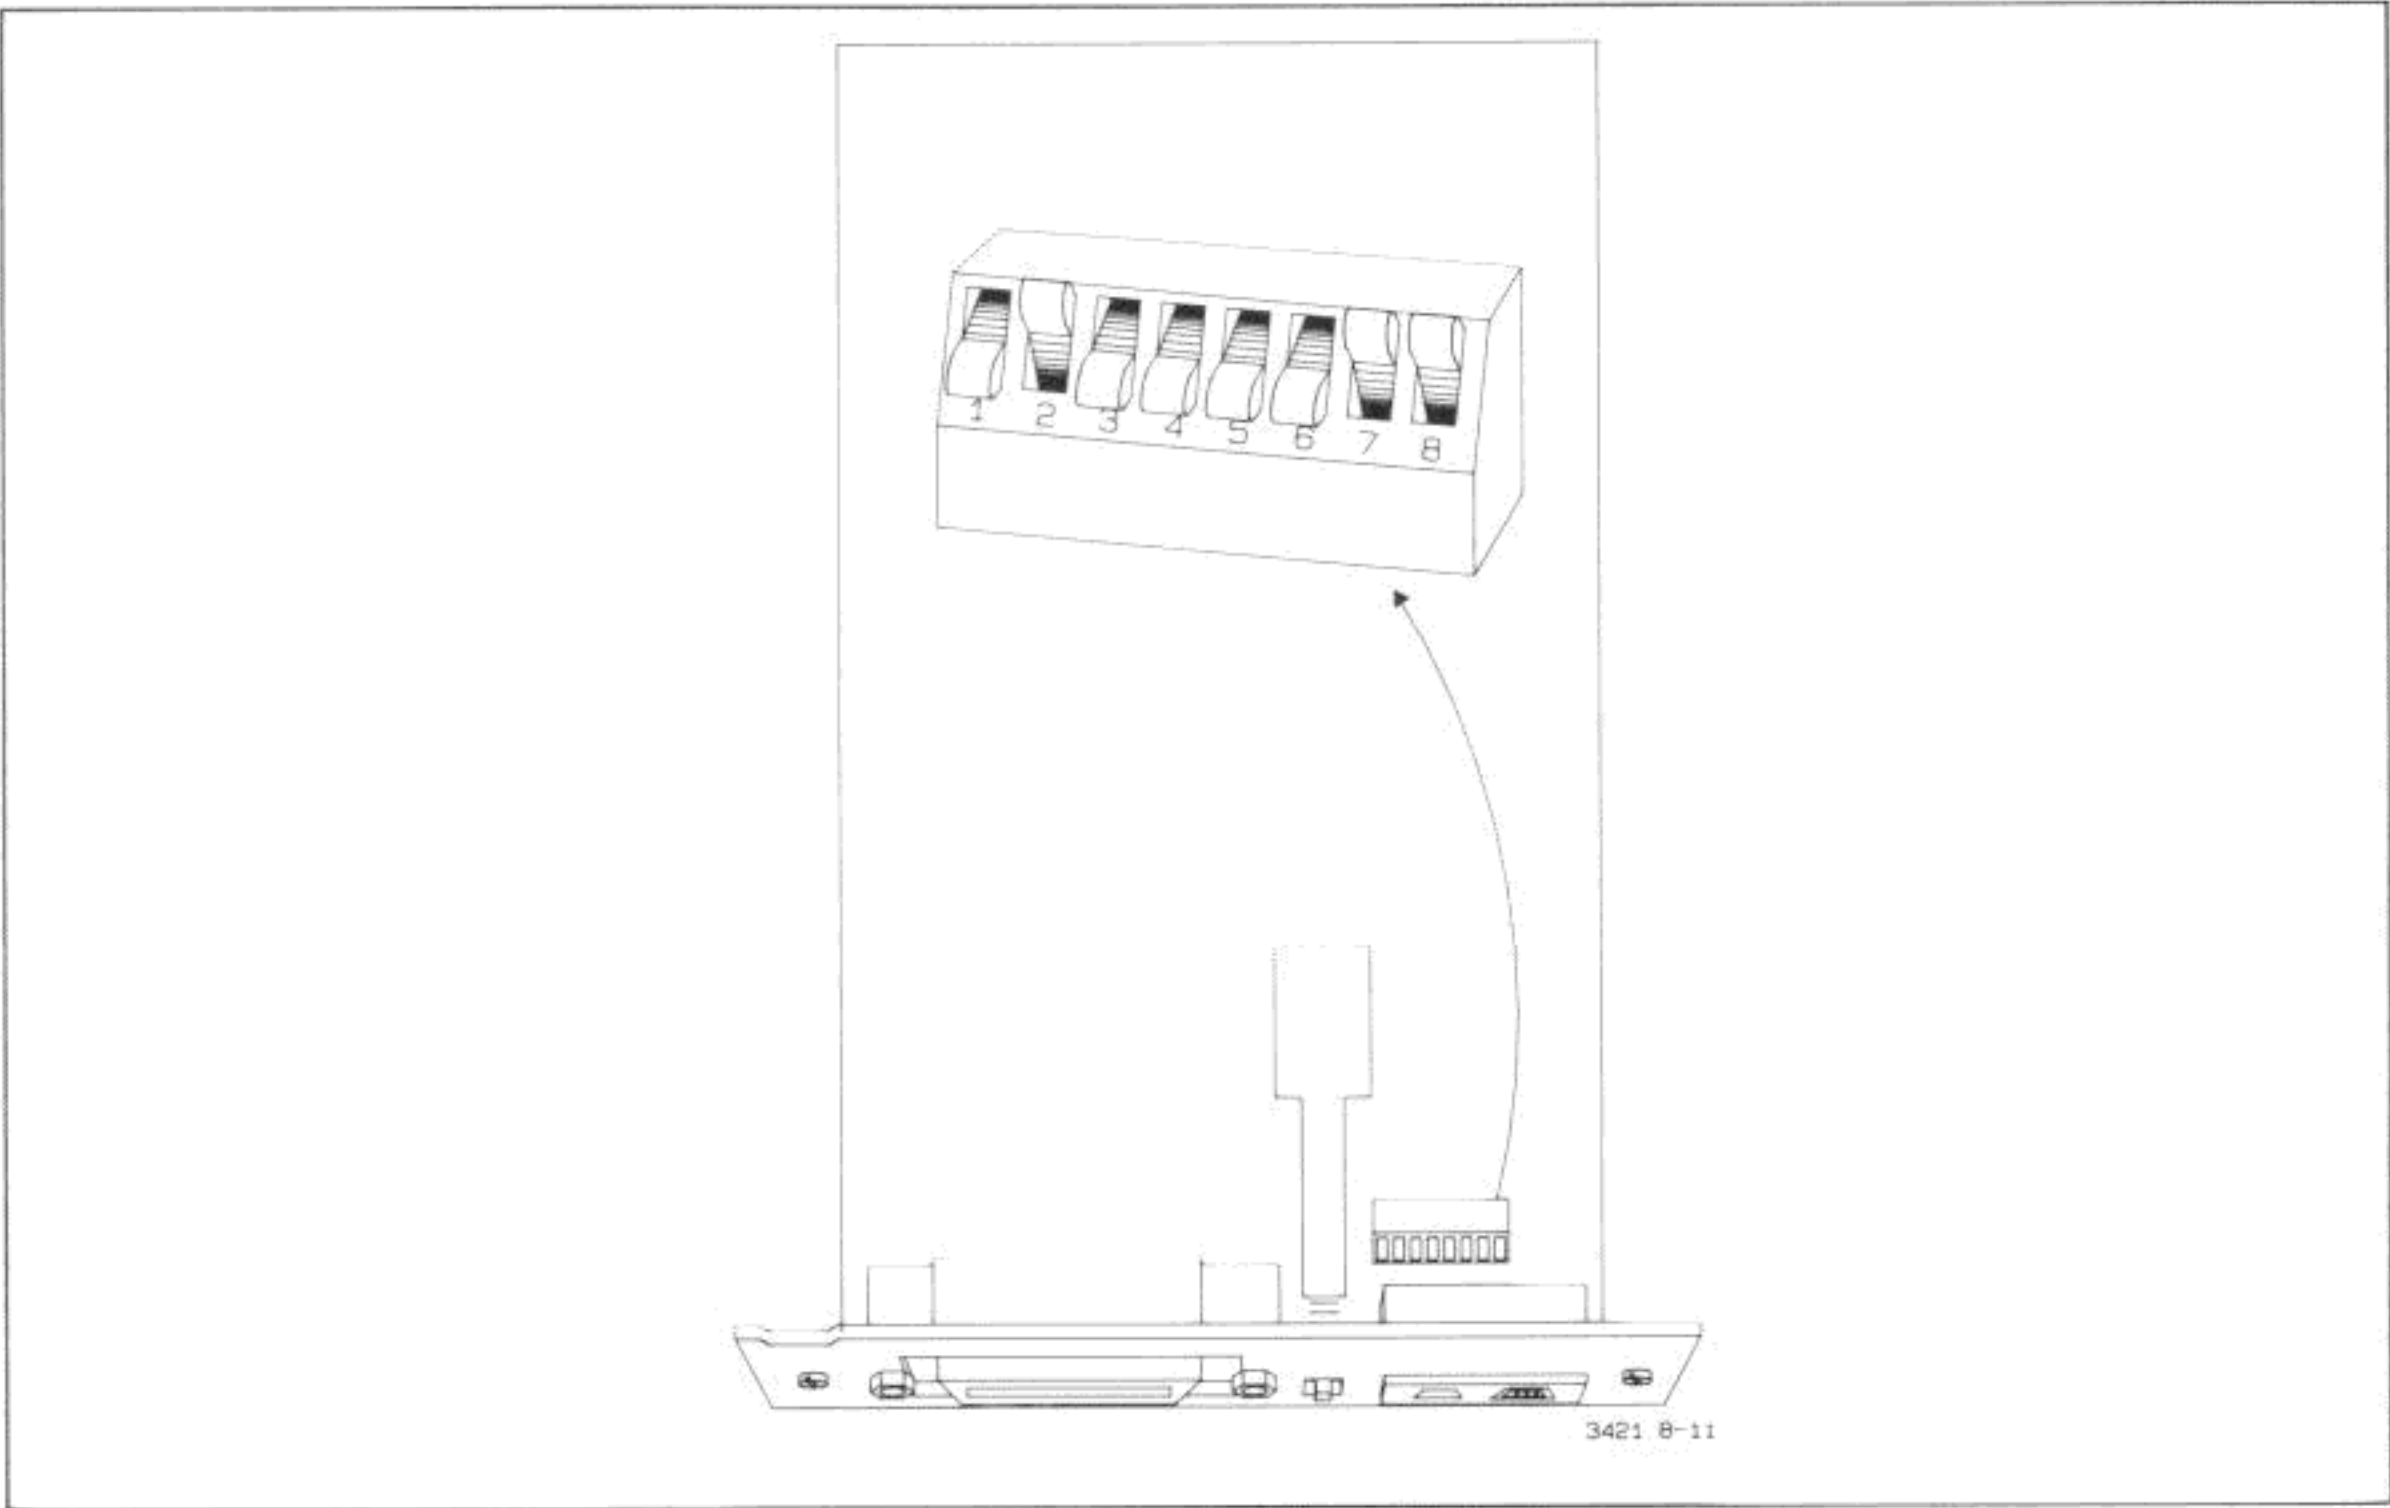

Figure 4-8-11. S802 Switch Settings for Signatures in Table 4-8-4
c. Set the S802 switch segments as shown in Figure 4-8-11 and check for the signatures listed in Table 4-8-4. If any signature is incorrect, refer to paragraph 4-8-71 to isolate the defective area. If all signatures are correct, proceed with step d.
Table 4-8-4. Signatures for Figure 4-8-11 Switch Settings (SA test #1)